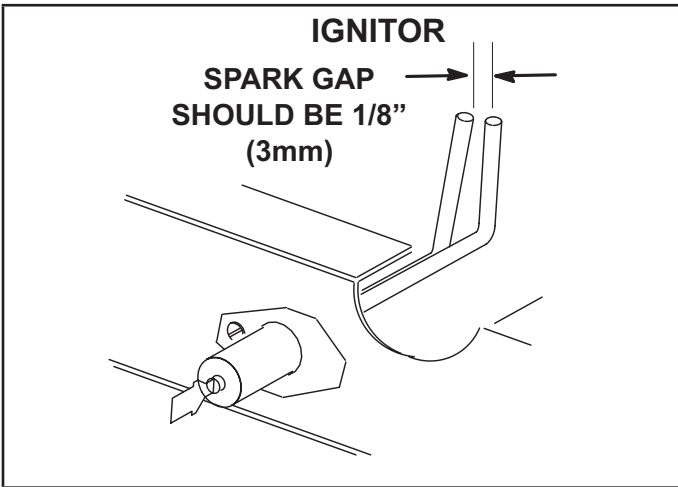

FIGURE 29
- 5 - Locate the ignitor under the right burner. Check ignitor spark gap with appropriately sized twist drills or feeler gauges. See FIGURE 29.